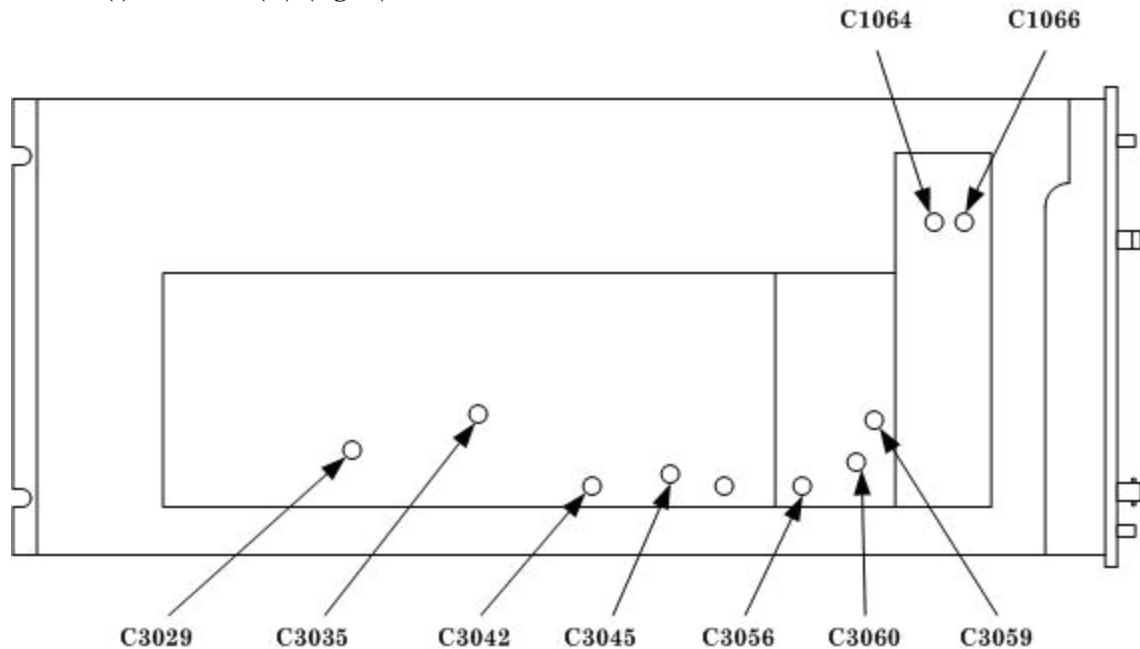

Figure 1. Test instrument - left view.
- (1) Connect spectrum analyzer to **500 MHz +30 dBm** output using cable and 3 dB attenuator (p/o TI).
- (2) Adjust spectrum analyzer to display 500 MHz as center frequency.
- (3) Adjust C3029 (fig. 1) for maximum signal amplitude while keeping the frequency between 499.95 and 500.05 MHz (R).
(4) Perform adjustments in order as listed in (a) through (f) below, adjusting for maximum amplitude on spectrum analyzer.
- (a) C3035 (R) (fig. 1).
- (b) C3042 (R) (fig. 1).
- (c) C3045 (R) (fig. 1).
- (d) C3056 (R) (fig. 1).
- (e) C3059 (R) (fig. 1).
- (f) C3060 (R) (fig. 1).
(5) Repeat a (1) through (5) and if required adjust C1064 and C1066 (fig. 1) for best in-tolerance condition (R).
(6) Repeat a (1) through (5) above as required due to interaction.
- (1) Adjust C3029 (fig. 1) for 500.00 MHz indication on frequency counter (R).
- (2) Repeat paragraph 8 a.